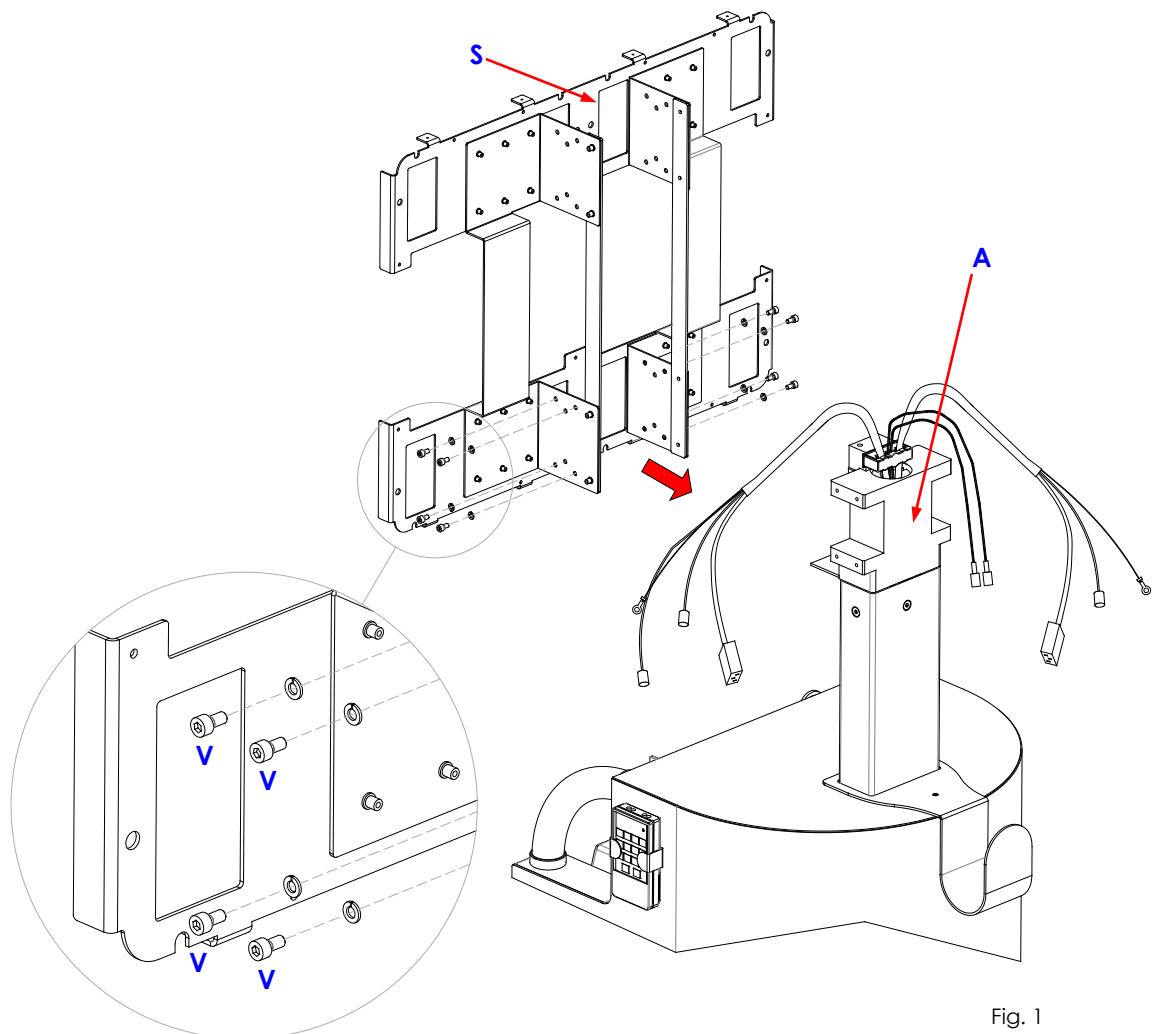

Fig. 1
- Fit the monitor support (S) on support (A), as shown in figure 1.
- Secure by tightening the 8 M5x10 screws (V) provided, after inserting washers.